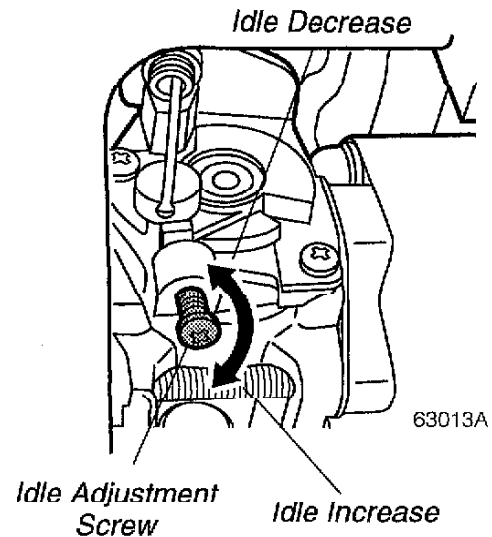

Figure 9
3. Turn the idle speed adjustment screw in or out until the engine idles smoothly at approximately $2,000\text{min}^{-1} \pm 200\text{min}^{-1}$. See Figure 9.